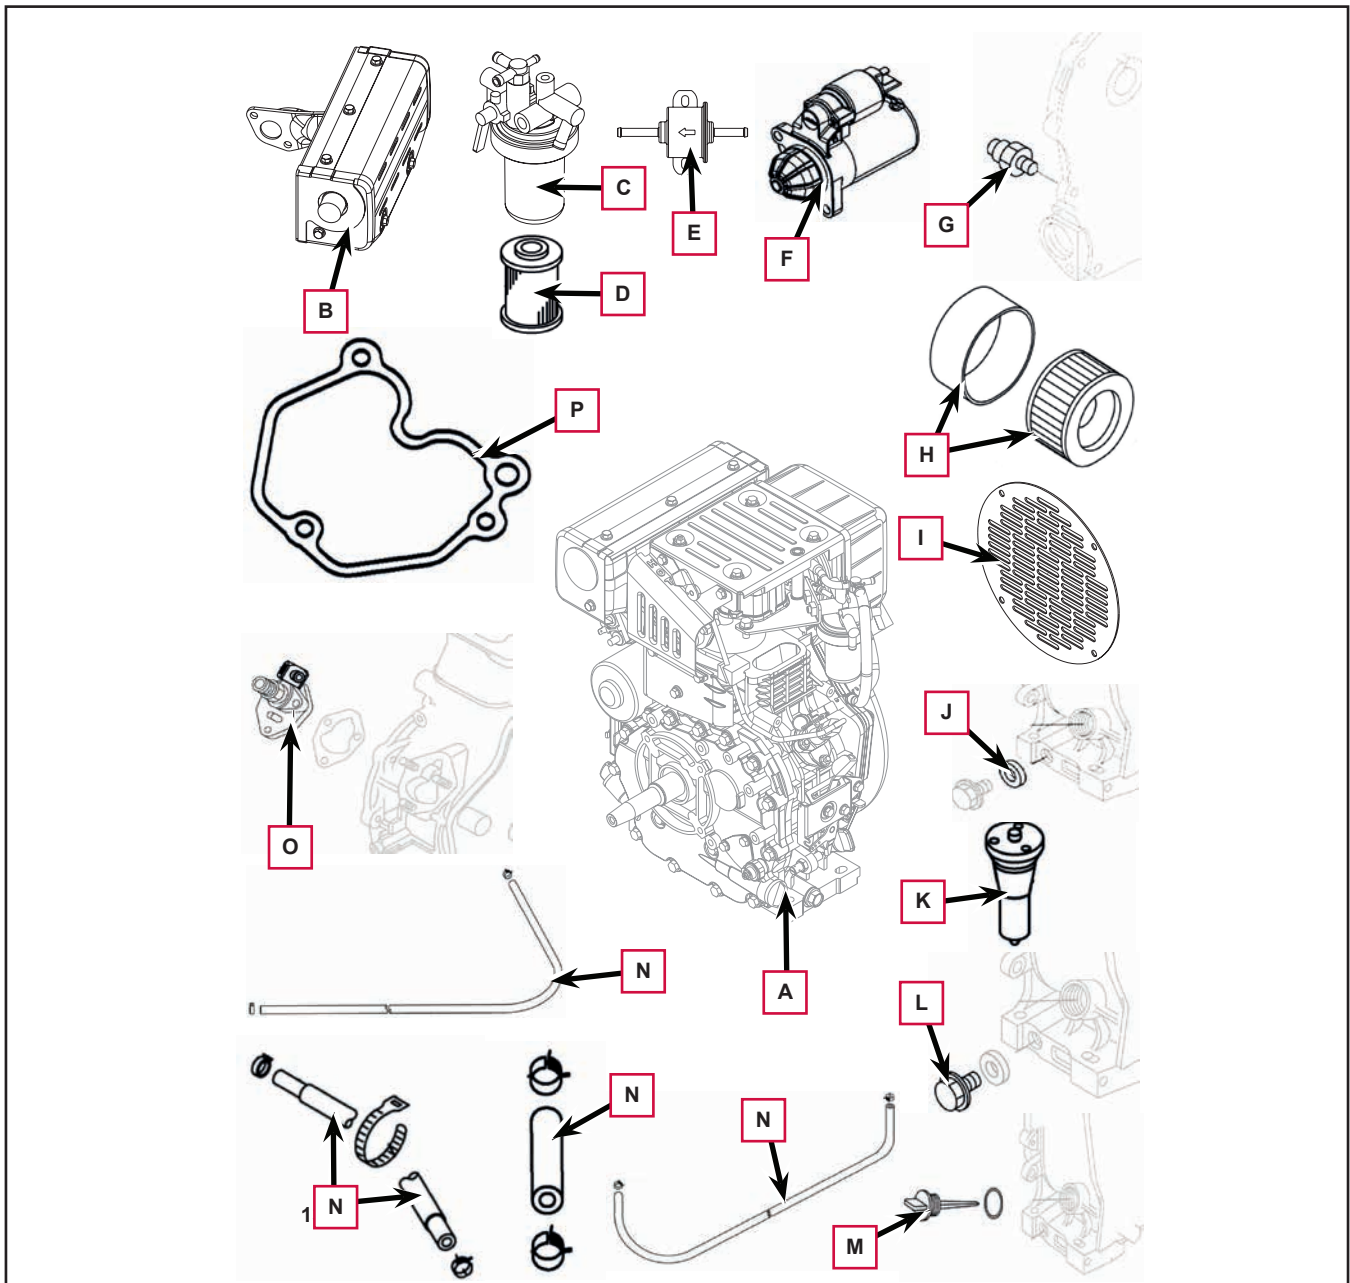

Figure 10
1. Engine complete (A, Figure 10).
2. Side exide muffler (B).
3. Diesel Filter (C).
4. Diesel cartridge filter (D).
5. Dielsel oil pump (E).
6. Starter Motor (F).
7. Oil pressure sensor (G).
8. Filter air (H).
9. Inlet ait grid (I).
10. Oil drain gasket (J).
11. Fuel inject nozzle (K).